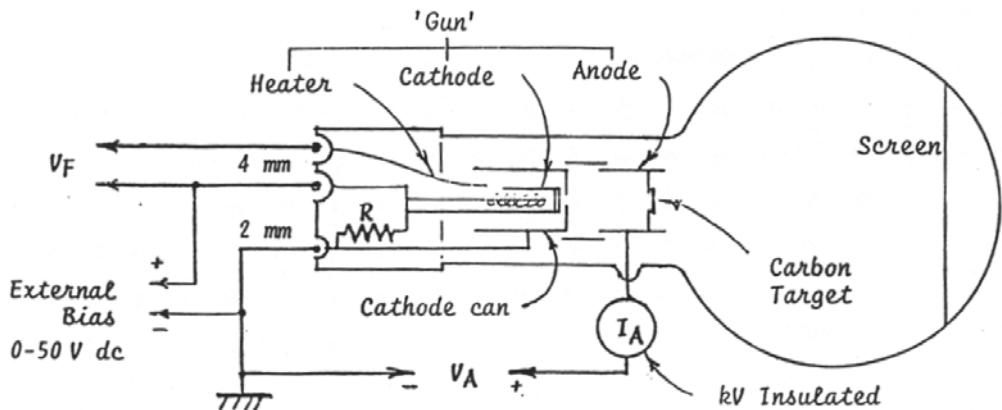

Figure 2 Wiring diagram for the Teletron 555 electron diffraction tube. The filament current should not exceed 0.2 mA !
The wiring diagram of the Teletron 555 is shown in Figure 2. There are three circuits that need to be connected: filament heater supplying  $V_F$ , accelerating potential  $V_A$  , which accelerate the electrons emitted from the heated cathode to the carbon target. The external bias ( 0-50 V) focuses the electron beam and allows for the diffraction pattern to be visible at lower accelerating potential. You will adjust the external bias voltage to obtain an optimal result.
1. When you walk into the room you will find that the circuit diagram from Figure 2 is already set-up. Without turning any of the power supplies on, you need to verify the connections and to make sure that you understand the correspondence between the diagram in the figure and what you see in the set-up.